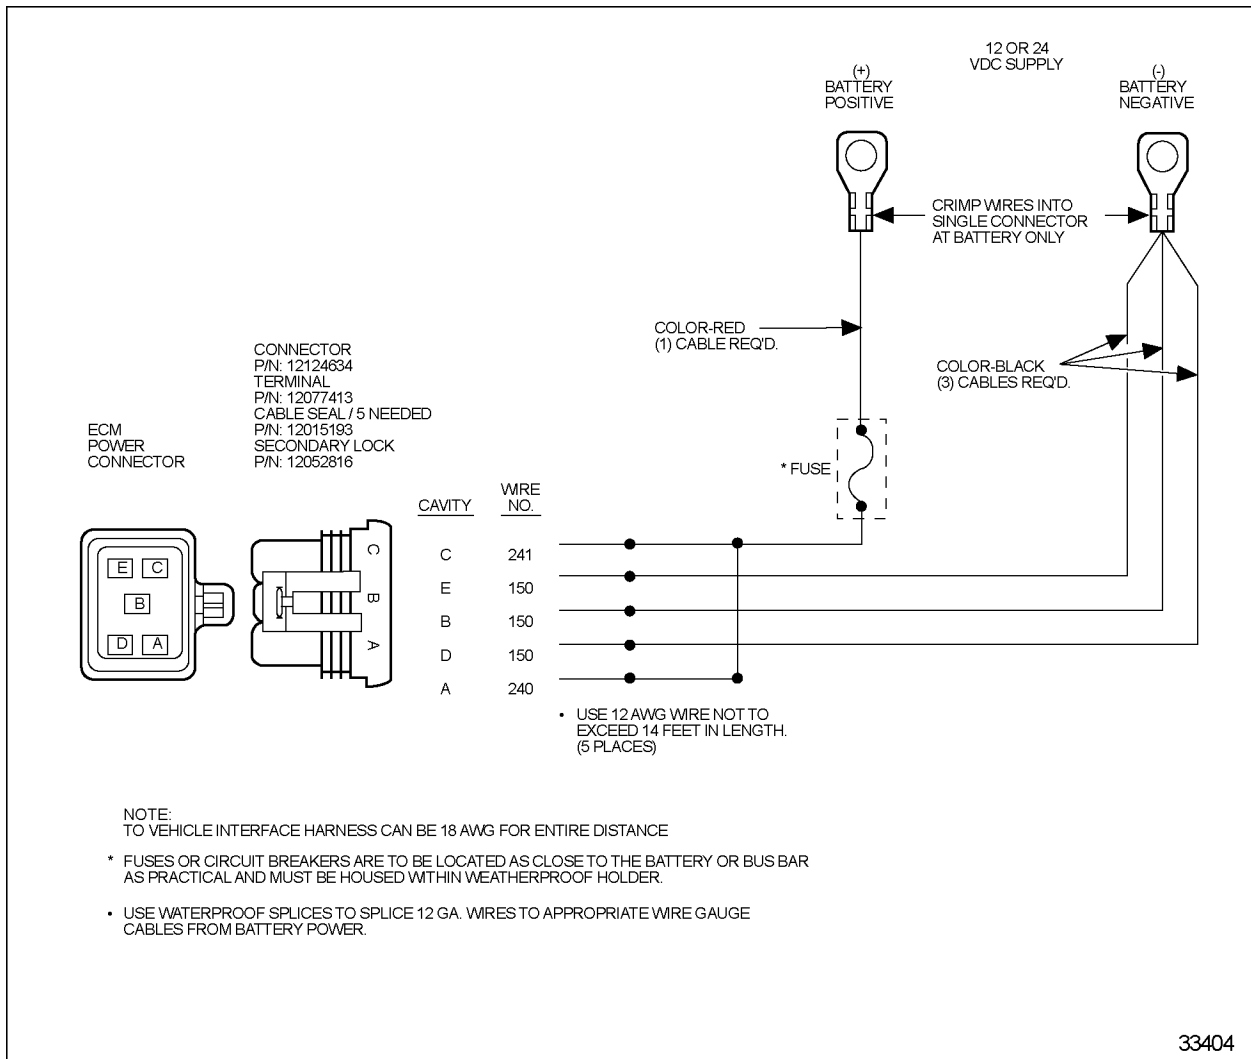
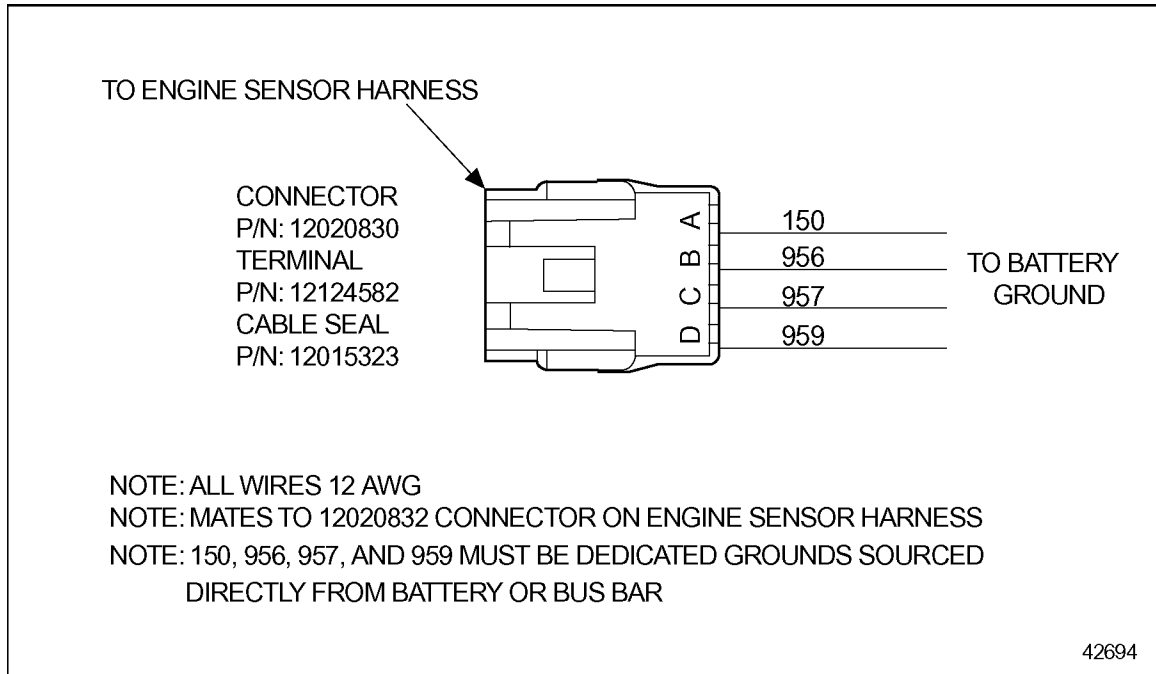
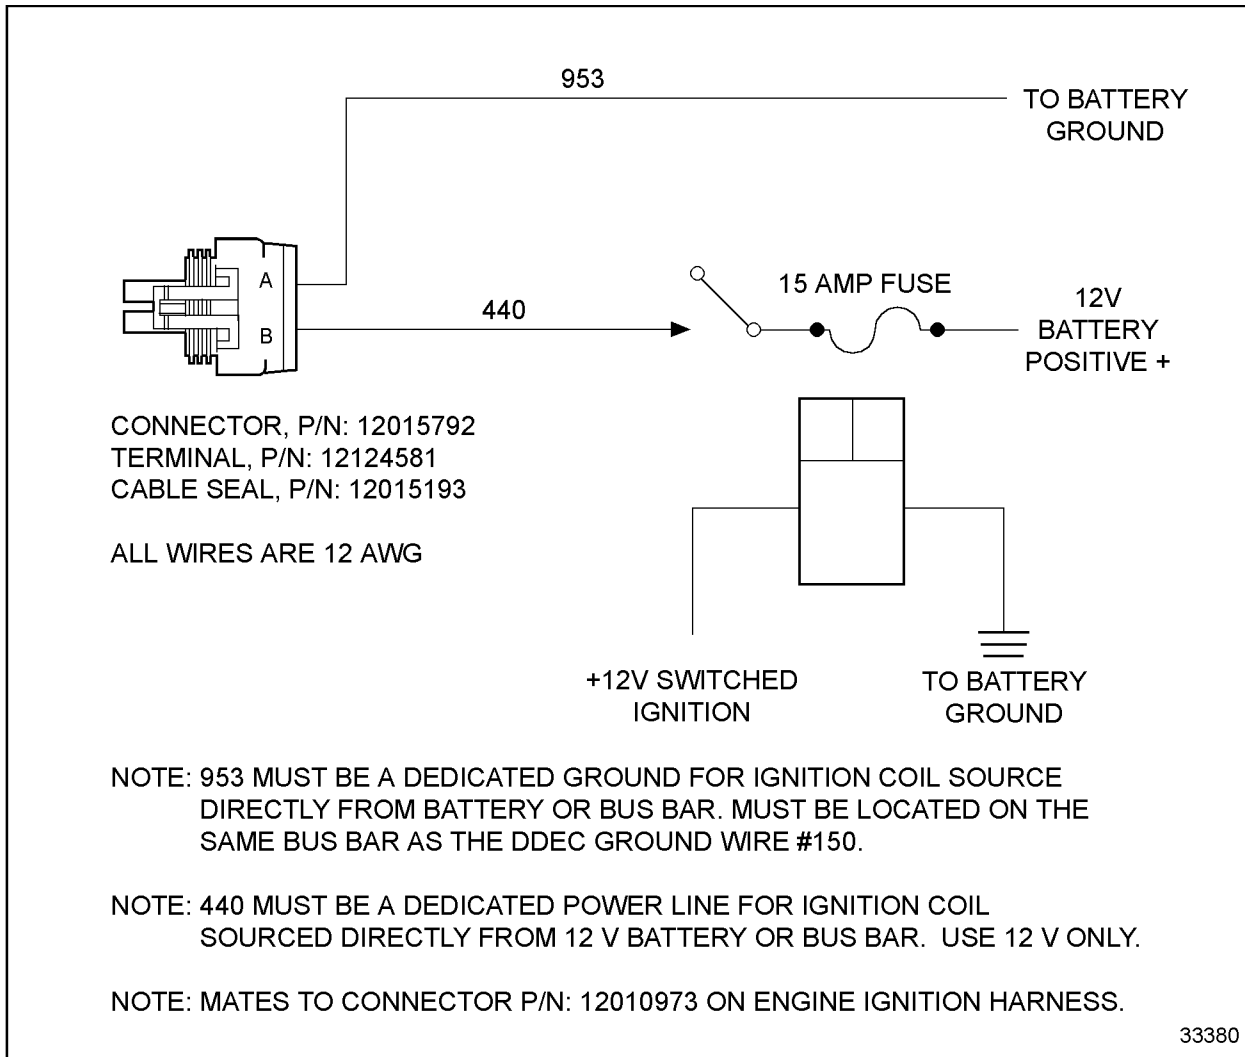

Figure 3-9 Power Wiring
Figure 3-12 OEM Sensor Ground Harness
Figure 3-13 **Coil Power Harness**
- Ground wires #150, 956, 957, and 959 from the OEM Sensor Ground Harness (see Figure 3-12) ground wire #953 from the Coil Power Harness (see see Figure 3-13) and the three DDEC ECM main power ground wires #150 (see Figure 3-9) must go to a common negative battery terminal. Use an individual 12 AWG wire (do not exceed 28 ft in length) for each of the seven ground wires to the battery. If a ground stud or bar is used before going to the battery, do not source any other grounds from that ground stud or bar. Use an individual 12 AWG wire (do not exceed 28 ft in length) for each of the seven ground wires to the ground stud or bar. A 2/0 AWG or larger cable must be used to connect the ground stud or bar directly to a negative battery terminal. Do not source any other grounds from this cable.
Provides ground to the PSV, throttle and Oxygen Sensor Interface Module. This harness connects to a pigtail on the Engine Sensor Harness. See Figure 3-12.
This harness provides power to the engine ignition coils (see Figure 3-13).